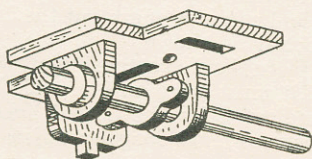

Fig. 2—The goalkeeper mechanism.
The goalkeeper mechanism is built together as explained by the bottom view detail at Fig. 2. Select the top plate (A) and glue the plate spindle ends (D) into their relative slots as shown, the